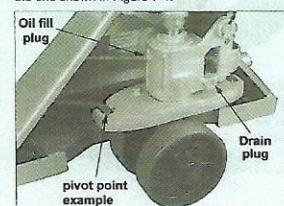

Figure 7-1
Check the oil level *annually* by unscrewing oil fill plug (Figure 7-1). Oil level should be near the bottom of the hole.
Also lubricate pivot points on the yoke, such as the one shown in Figure 7-1.
4. Turn the pallet truck upright. Remove drain plug (see Figure 7-1) and empty the oil into a suitable container. Pump handle until all oil has drained.
1. Remove drain plug (see Figure 7-1), and empty the oil into a suitable container. Pump handle until all oil has drained.